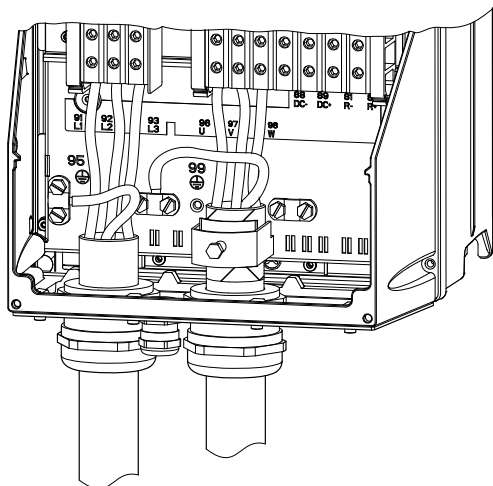

Fig. 18 Mains and motor connection, C1 and C2
1. Connect the earth conductor to terminal 95 (PE). See fig. 18.
1. Connect the earth conductor to terminal 99 (PE). See fig. 18.
2. Connect the motor conductors to terminals 96 (U), 97 (V), 98 (W).